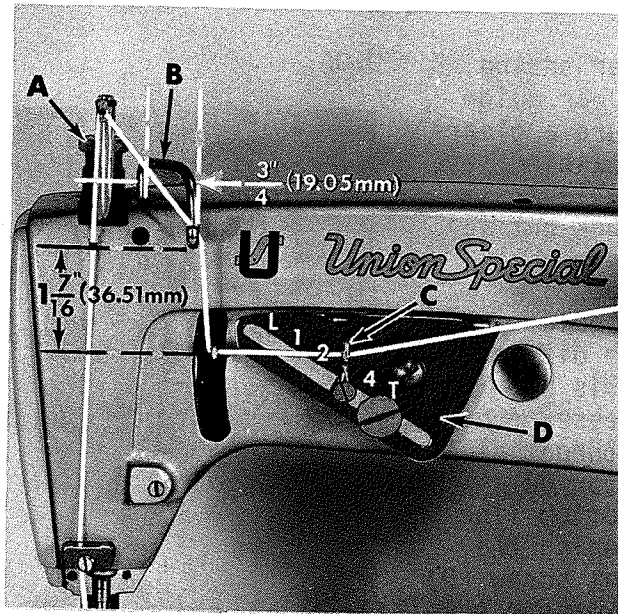

Fig. 14
Adjust presser spring regulating screw (A, Fig. 14) so that it exerts only enough pressure on the presser foot to feed the work uniformly when a slight tension is placed on the fabric. This is the knurled screw, located directly behind the needle bar in the head of the machine. Turning it clockwise increases the pressure, counterclockwise acts the reverse.
With needle bar at the top of its stroke, set needle thread take-up wire (B, Fig. 14) so its lower extended surface is 1 7/16 inch (36.51mm) above centerline of needle lever thread eyelet hole and 3/4 inch (19.05mm) across the centerlines of its vertical surfaces (See Fig. 14).
Adjust looper thread tension to a minimum required for controlling the looper thread (light). Set thread index eyelet (C, Fig. 14) at "3" on the adjusting plate (D). Changing the needle thread tension only, balance the stitch so that when 6" of sewn seam are raveled back, the needle thread is approximately as long as the looper thread. A 1" difference in lengths is permissible.